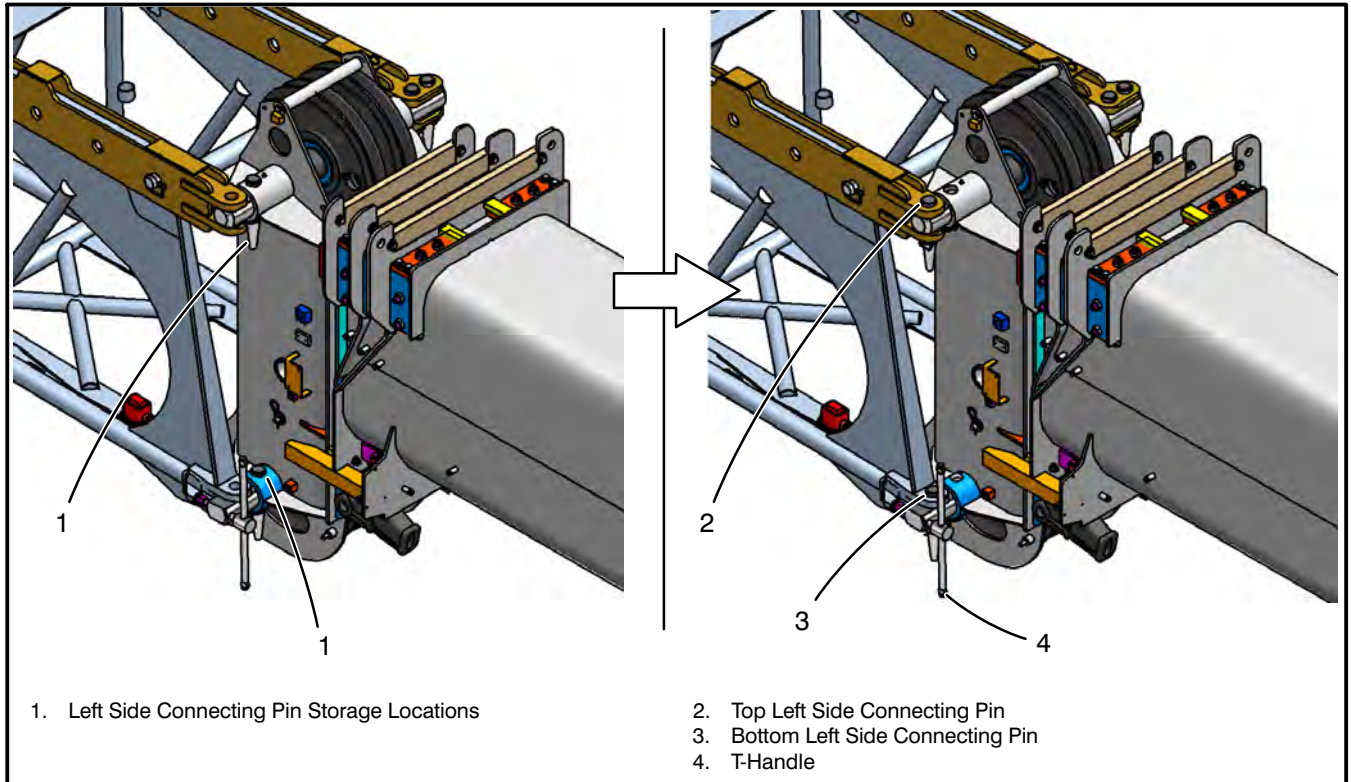

Figure 4-66
9. Remove the two fly connecting pins from the boom head machinery cross shafts on the left side of the boom head. Refer to Figure 4-66. Install the top pin to connect the fly lug to the head machinery cross shaft on the left side of the boom head. Turn the t-handle to push and align the bottom left fly lug and the bottom boom head machinery cross shaft. Install the bottom left fly connecting pin. (Install the pins with the head on top and keeper on the bottom.) Install the pin keepers.